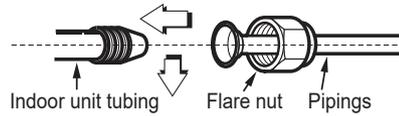

Fig.6-7
- Sufficiently tighten the flare nut (Refer to Fig.6-7)